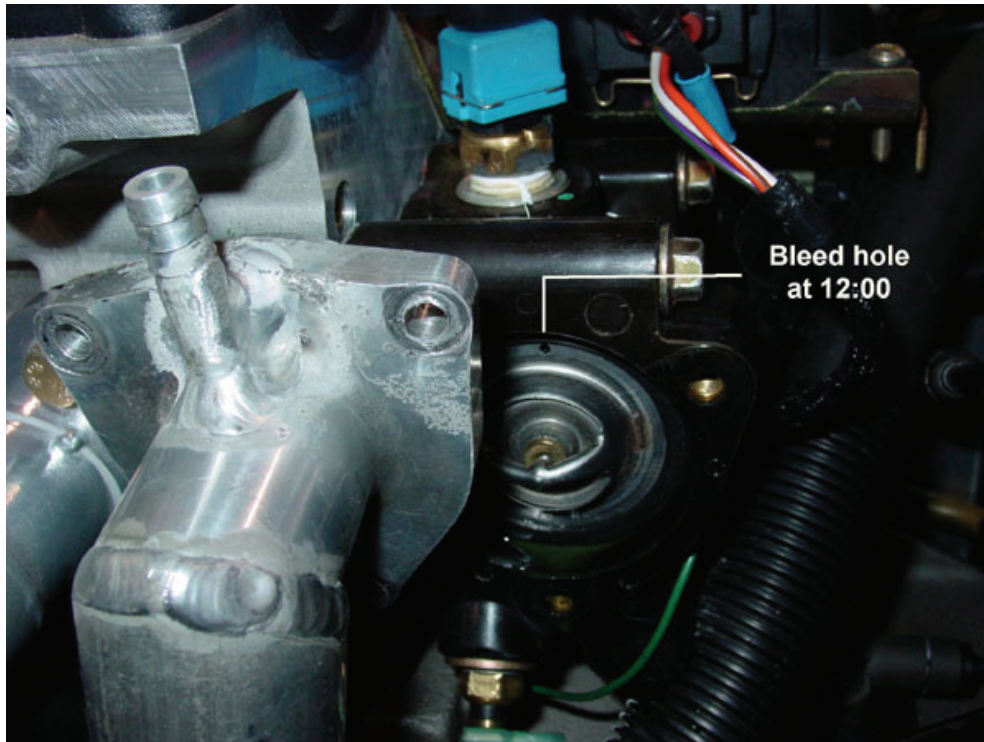

Fig.4
3. Move water neck back out of way. (See Fig.4)
6. **Install new thermostat with bleed hole at 12:00. (See Fig.4)**